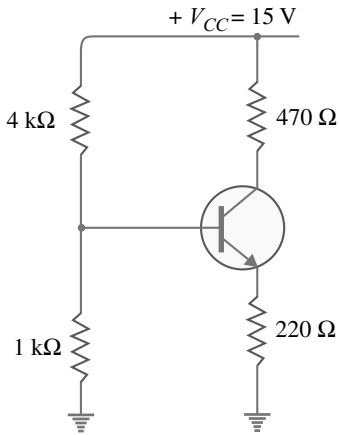

Fig. 7.60
7. In the transistor circuit shown in Fig. 7.60, find the operating point. Assume the transistor to be of silicon.  $[I_C = 10.5 \text{ mA}, V_{CE} = 7.75 \text{ V}]$